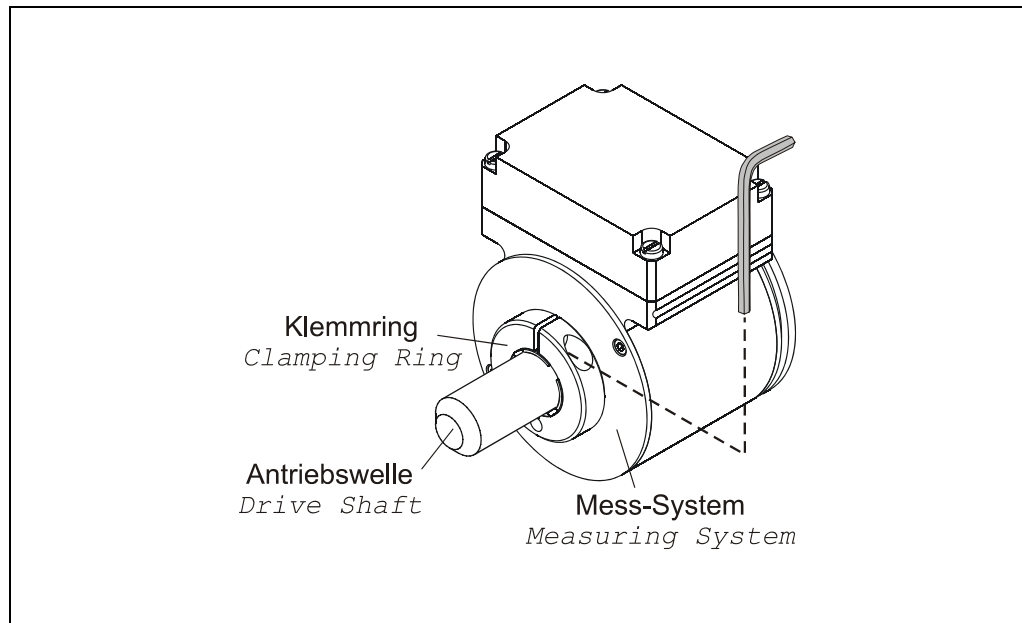

Figure 4: Friction locking
- Axial slipping of the measuring system on the drive shaft must be prevented by the fixing of the clamping ring, see Figure 4.